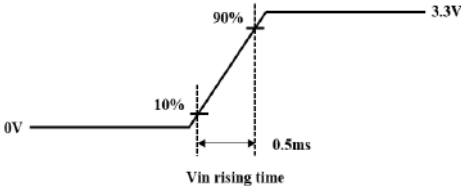

Figure 4. Inrush Measure Condition
- Measure condition (Figure 4)